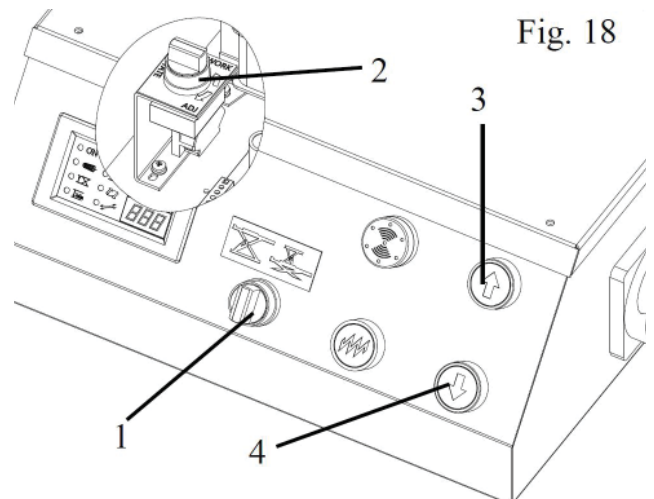

Fig. 18
- Open the top cover of the control unit, set ADJ/WORK selector into the position “WORK” (ref. Fig. 18);